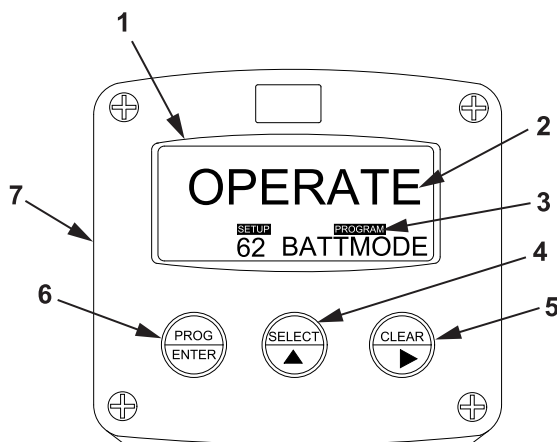
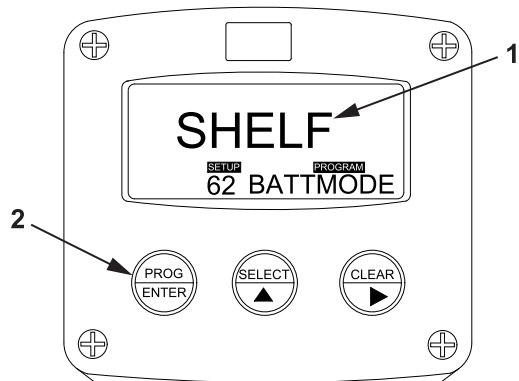

Figure 49. OPERATE Display.
Figure 50. SHELF Display.
6. Verify that OPERATE (Figure 49, Item 2) appears on the display screen (Figure 49, Item 1).
7. Press the PROG/ENTER key (Figure 49, Item 6) on the tank volume meter monitor (Figure 49, Item 7).
8. Verify that PROGRAM (Figure 49, Item 3) flashes on the display screen (Figure 49, Item 1).
9. Use either the SELECT key (Figure 49, Item 4) or the CLEAR key (Figure 49, Item 5) to toggle to SHELF (Figure 50, Item 2).
10. Press the PROG/ENTER key (Figure 50, Item 2) to select and activate SHELF (Figure 50, Item 1).